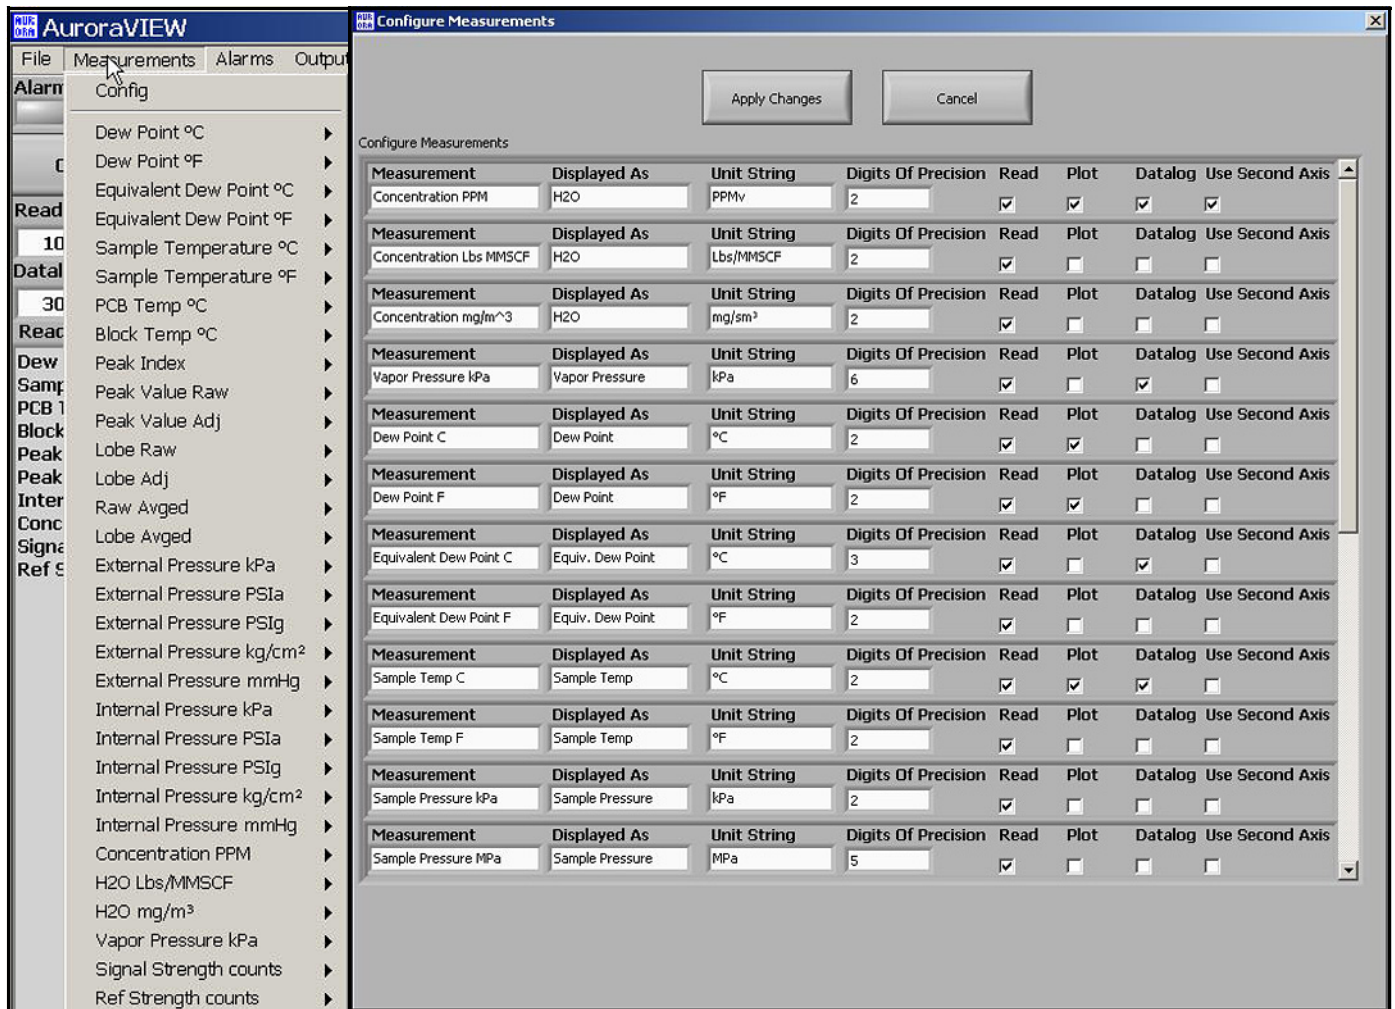

Figure 56: Configuration Measurements
1. Click Measurements → Config (see *Figure 56* below).